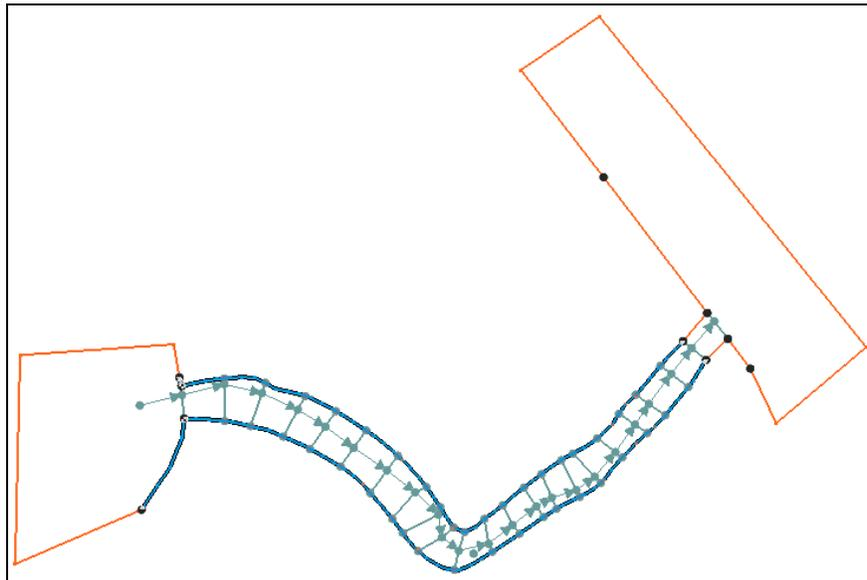

Figure 9 Selected HX arcs
2. Using the **Select Feature Arc** tool and while holding down the *Shift* key, select the arcs running along both banks of the channel and the single arc on each side of the upstream (left) end of the model (Figure 9)